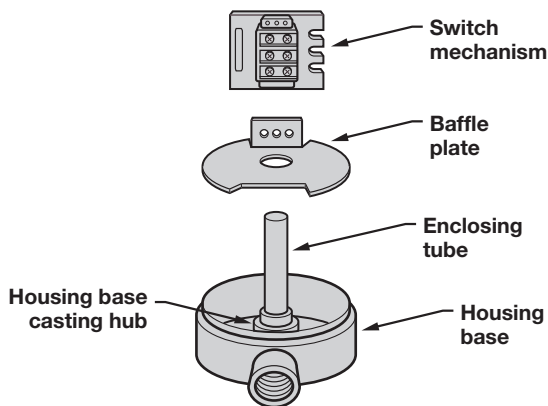
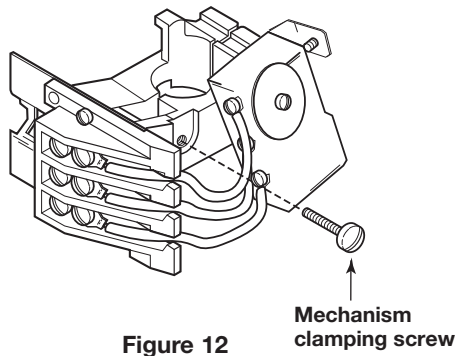
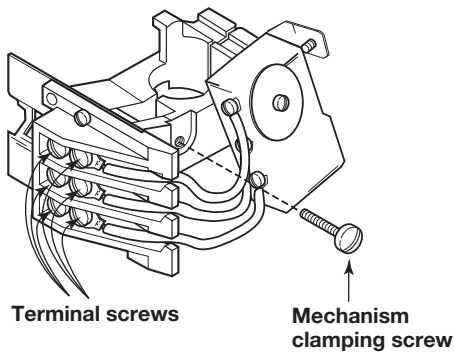

Figure 11
Figure 12
Figure 16
4. Make sure the switch mechanism is seated all the way down on the baffle plate. Refer to **Figure 11**. Check that the mechanism clamping screw is tightened to assure that the mechanism is secured to the enclosing tube and in proper position on the baffle plate. Refer to **Figure 12** on page 12. The baffle plate should rest on the housing base casting hub.
4. Make sure the switch mechanism is seated down on the baffle plate. Refer to **Figure 11** on page 11. Check that the mechanism clamping screw is tightened to assure that the mechanism is secured to the enclosing tube and in proper position on the baffle plate. Refer to **Figure 16**. The baffle plate should rest on the housing base casting hub.